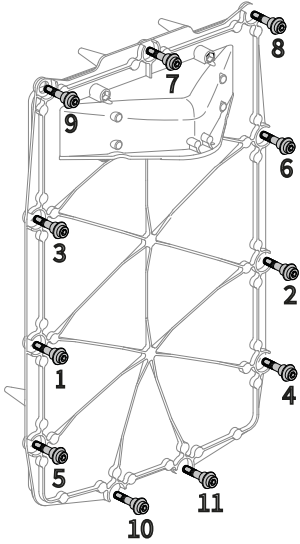

Figure 47: Tighten Allen bolts in cross pattern direction.
- 2.** Place the heat exchanger cover onto the heat exchanger and loosely install the 6mm Allen bolts removed in step 6. Tighten the 6mm Allen bolts in a cross pattern as shown in the Figure 47.